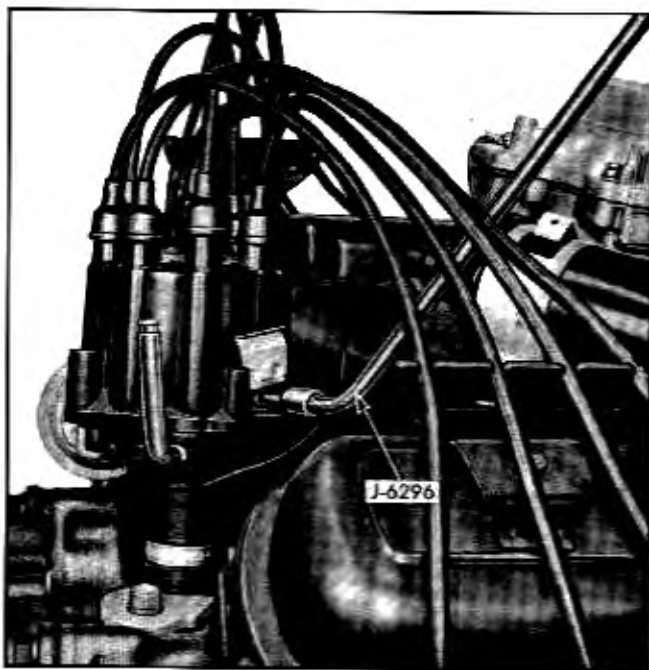

Fig. 12-49 Adjusting Dwell Angle
2. Insert a "Hex" type wrench into the head of the adjusting screw as shown in Fig. 12-49.